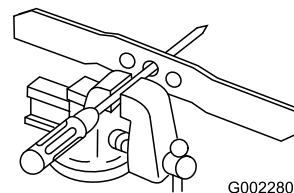

Figure 27
1. Check the balance of the blade by placing the center hole of the blade over a nail or screwdriver shank clamped horizontally in a vise (Figure 27).